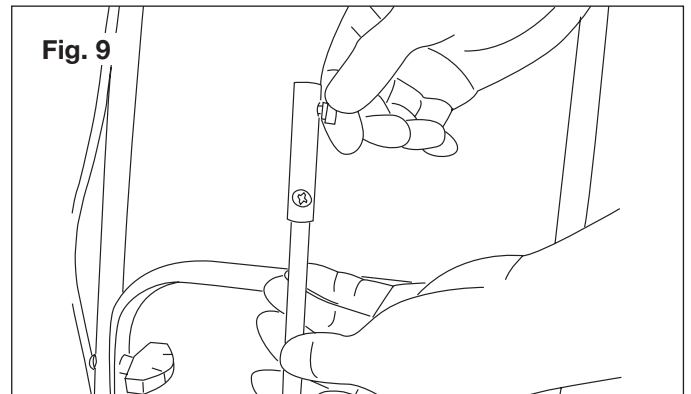

Fig. 9
2. Loosen the screw on the lower chute crank by hand (Fig. 9).